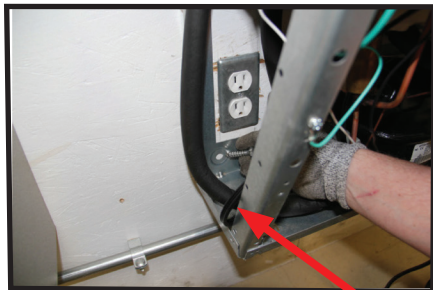

FIG. 6
- 15) Remove wall mounting plate from Bottle Filler (See Fig. 8 ). Place wall mounting plate against wall on top of basin. Center the wall mounting plate side to side with the basin. Mark the six (6) mounting holes with a pencil (See Fig. 1, Pg. 2). Place tape over wiring harness connection on top of cooler to prevent debris from falling into Connection(See Fig. 6, Pg. 7).